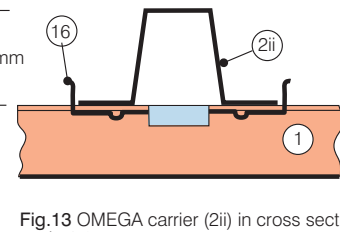

Fig.13 OMEGA carrier (2ii) in cross section. scale 1:2
and ceiling module (Mo). Open joint widths between MODULAM profiles ref. M85H13 and M85H20 can be varied by clipping the profiles over a sliding clip plate (16) which is 'end fed' onto a plain base (ie. non tongued) carrier (2ii) (Figs.13 & 14) and positioned according to requirements. Either of the perimeter angles (5) (Fig.5) or (6) (Fig.4) can be used to cloak the cut